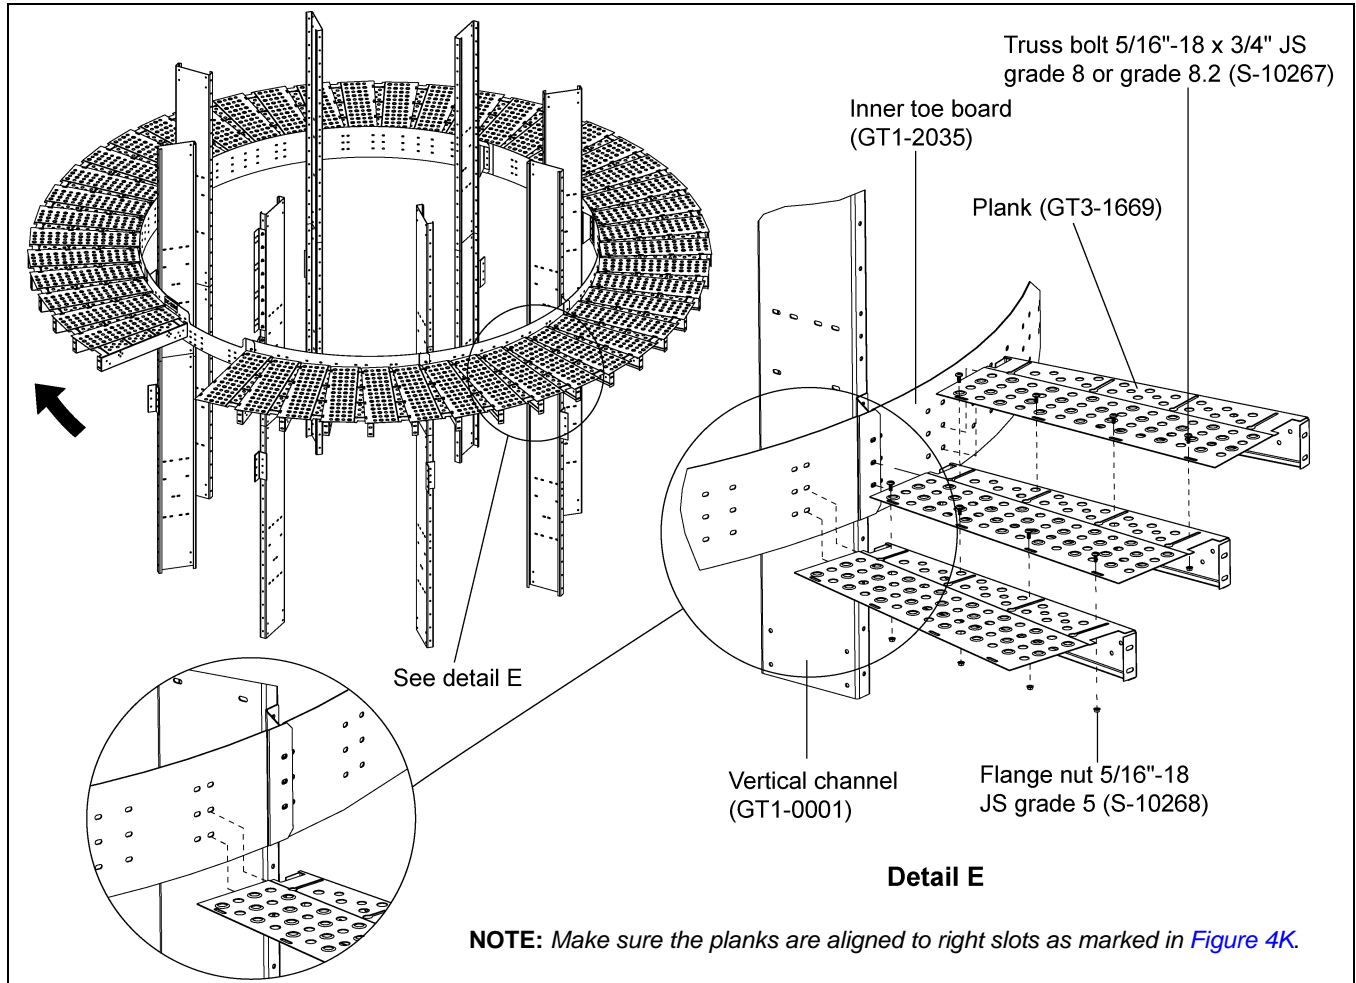

Figure 4J
1. Install planks around the dryer on inner toe board starting from ladder opening toe board (GT1-2089) as shown by arrow in the Figure 4J.
2. Planks (GT3-1669) are installed to bottom two (2) holes of the inner toe board (GT1-2035) using 3/8"-16 x 1" JS grade 8 or grade 8.2 bolts (S-7485) and 3/8"-16 ZN grade 5 nuts (S-968). (See Figure 4J.)